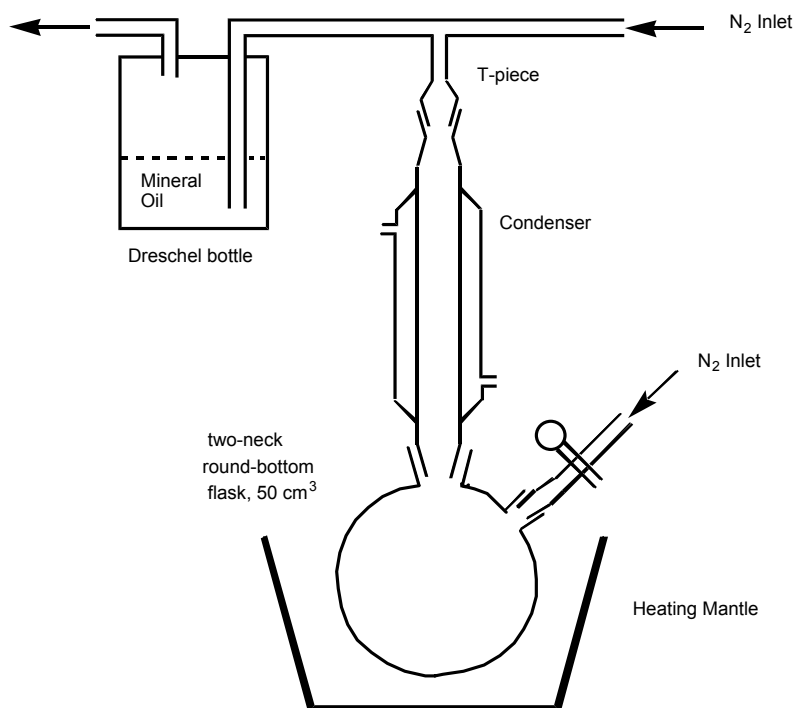

Figure 3.1 Experimental apparatus for syntheses 1, 3 and 4.
N.B. Use the apparatus shown in Fig 3.1 to carry out syntheses 1, 3 and 4 (where you need to heat a reaction mixture under reflux and under nitrogen). Synthesis 2 is carried out at room temperature, in the open laboratory.